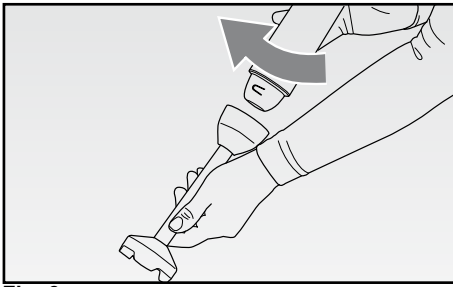

Fig. 2
- Mount the motor body (D) onto the shaft (G): put the two parts close, by aligning the symbol of “open lock” on the shaft with the arrow on the motor body and rotate the latter clockwise until it clicks in place (Fig. 2).
- The hand blender (G) is suitable for preparing sauces, soups, mayonnaise, and milkshakes.
- Mount the motor body (H) onto the wire whisk (H): put the two parts closer, by aligning the symbol of the “open lock” on the whisk with the arrow on the motor body and rotate the motor body until it clicks in place (Fig. 2). The wire whisk (H) serves to whip cream and egg whites and for soft mixtures.
- Mount the motor body (D) onto the potato masher (L): put the two parts close, by aligning the reference on the fitting (I) with the arrow on the motor body until it clicks in place (Fig. 2).